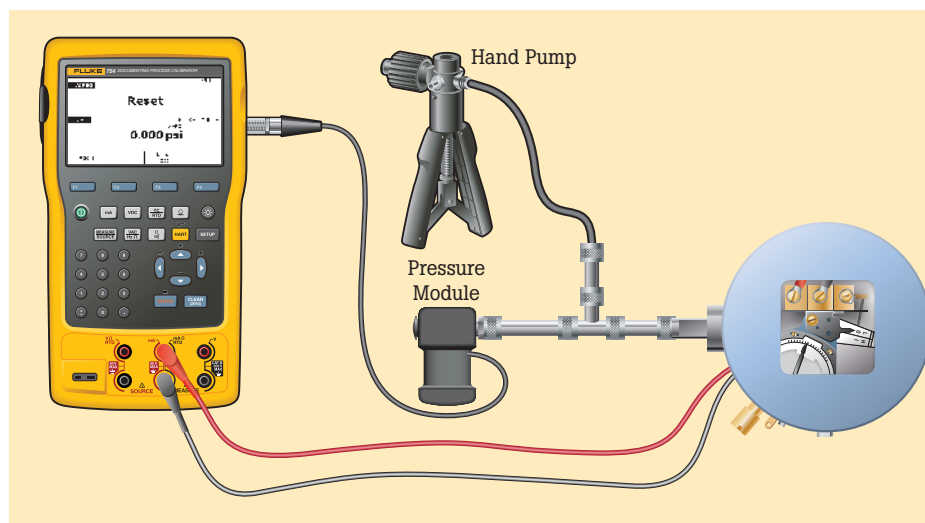
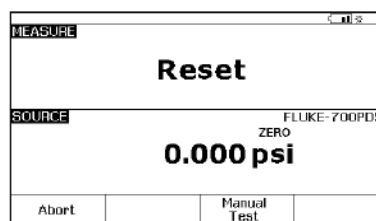

Figure 1.
Figure 4.
- Connect a pump to the pneumatic input of the switch with a tee connection into the pressure module, like the Fluke-700 Series pictured in Figure 1.
When all connections are complete it should resemble Figure 1.
The test can now be performed by selecting the MANUAL TEST softkey (Figure 4). Using the hand pump connected (Figure 1), vary the pressure applied to the pressure switch and pressure module slowly, back and forth across the